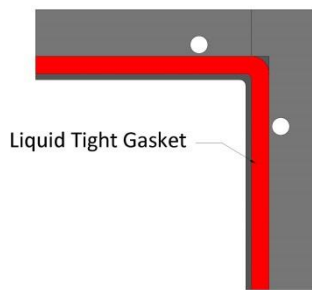

Figure 1
- Install the gasket by removing the paper backing and applying the gasket flush to the outer edge of the inner liner (Figure 1 or 4). For horizontal duct configurations, any splices in the liquid tight gasket should be made at the top portion of the duct. Be sure not to stretch the gasket while you apply it to the steel flange.